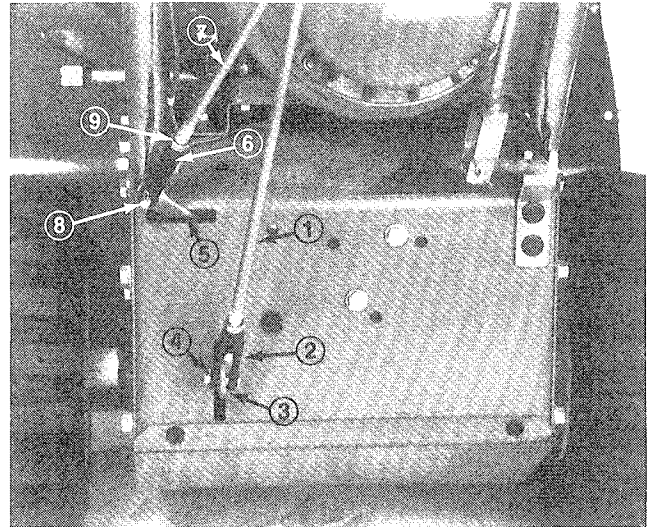

Figure 6
2. Push up on long rod and rotate clevis until clevis pin will fit loosely thru holes in clevis and link arm. Temporarily insert clevis pin and release long rod (Fig. 6).
5. Secure clevis pin with cotter pin (Fig. 6).
7. Move shift arm (Fig. 6) fully to the left. Next, rotate clevis at end of shortest rod until holes in clevis line up with hole in shift arm (Fig. 6). Secure clevis and shift arm together with clevis pin and cotter pin (Fig. 6).
8. Tighten the jam nut against top of both clevises (Fig. 6).